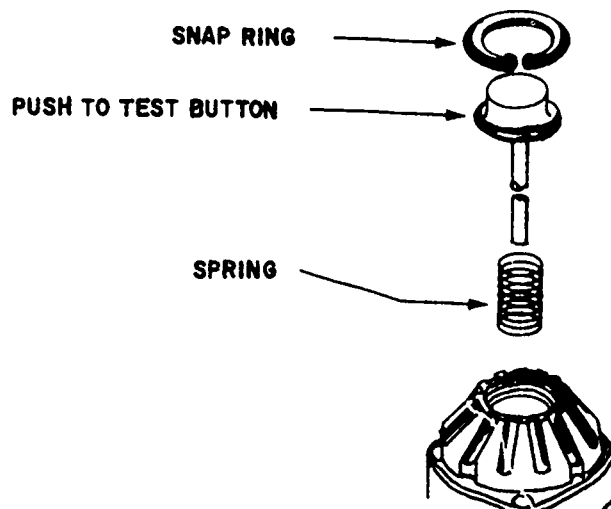

Figure 6. Range Selector.
2. Hold the anti-G suit valve in your left hand. The push-to-test button must be up and the identification (ID) plate facing you. Insert the "L" shaped bracket from front to rear. Secure the valve to the anti-G suit bracket with the mounting nuts.
4. Refer to figure 6 of this workbook. Use the snap-ring pliers to remove the snap-ring that holds the push-to-test button in place. Set the snap-ring aside for reassembly after the test is completed.